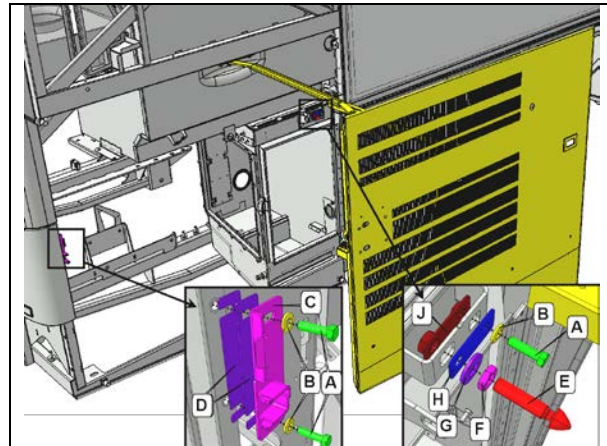

FIGURE 48: DOOR INSTALLATION – LATCH SYSTEM
1. To adjust the position, the door must be free to move without any restriction. For this reason, remove pin E and strike plate C (Figure 48).